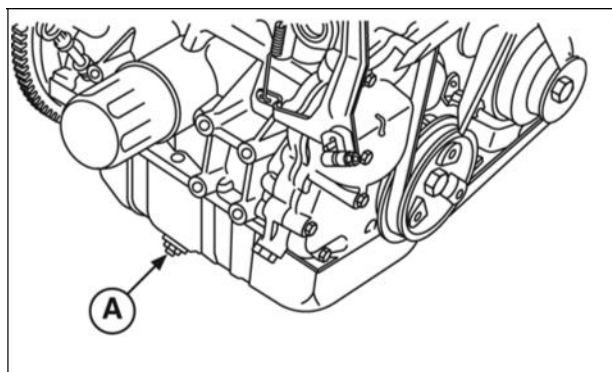

Figure 1
1. Remove oil drain plug (A, Figure 1) and drain oil while engine is still warm.